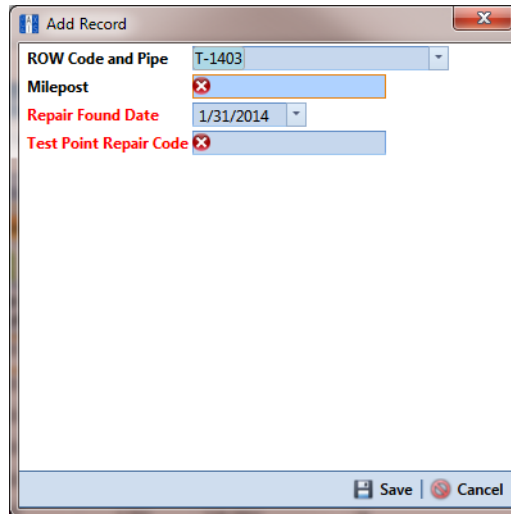

Figure 7-24. Add Record
- c Click  **Save** to display required field(s) for data entry (Figure 7-24). Required fields are identified with the  icon, such as *Milepost* and *Test Point Repair Code* in the next figure (Figure 7-24).